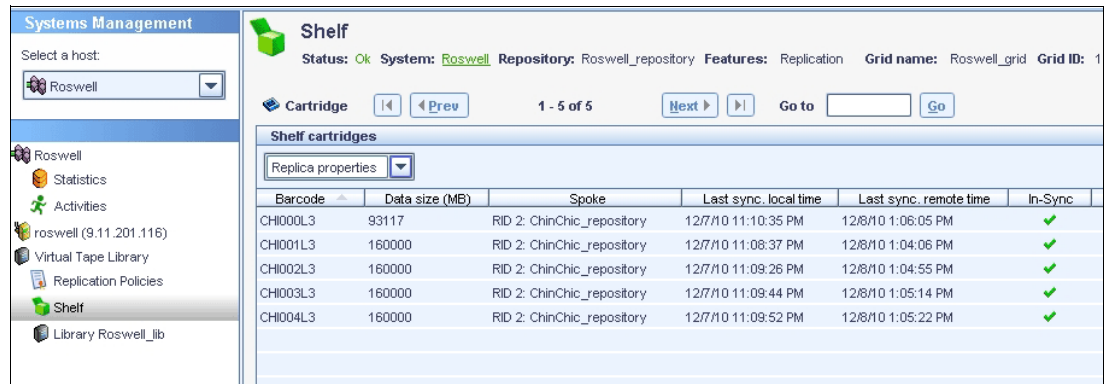

Figure 11-15 ProtecTIER VTL hub cartridge replica properties
**Note:** Following an upgrade to V2.4 or V2.5 (backup or replication), all the known information on the cartridge (available in V2.3) will still be displayed, but the dirty bit “In-Sync” column will be empty until there is activity. Then the In-Sync will be populated accordingly, as shown in Figure 11-15 on page 587.